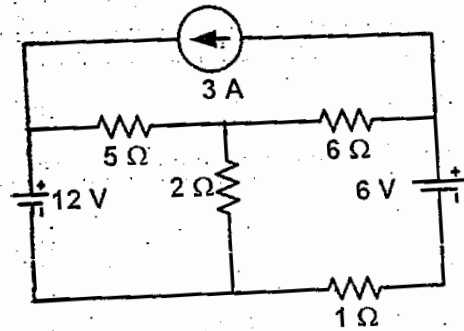

Fig. 2.6
6. Determine the current through each resistor using Mesh Analysis for the network shown in figure 2.6. [Ans: 1.73A, 1.68 A, 0.05A, 2.95A]